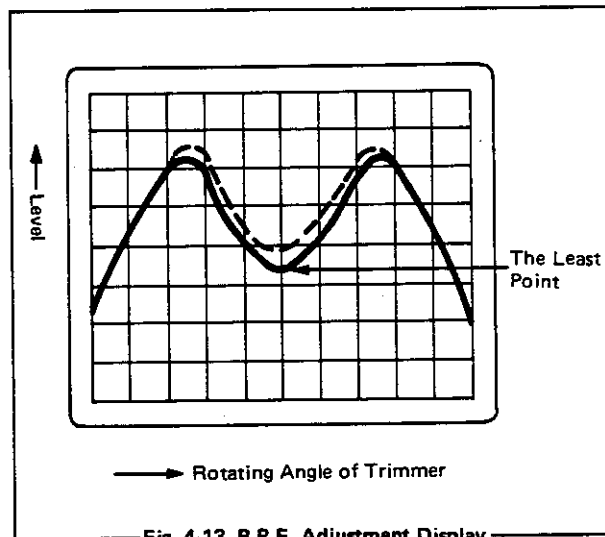

Fig. 4-13 B.P.F. Adjustment Display
- (1) Connect CAL. OUT. to INPUT and reset specific controls from the initial settings (Para 4-2-3-(3)) as follows:
- (2) Center the signal by **TUNING** and **FINE**.
- (3) Adjust C284 of Board SK030 to correspond the signal level to the lowest point. [Fig. 4-13]
- (4) Adjust C225, C235, C256 and C268 to obtain the signal level the highest.
- (5) Repeat procedures (3) and (4) above once more.